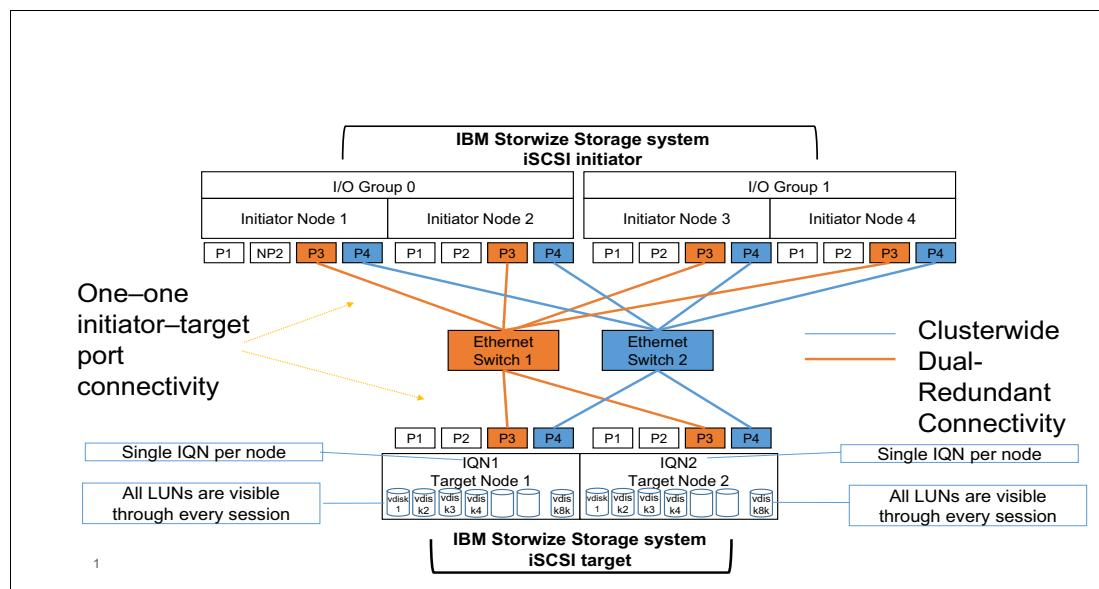
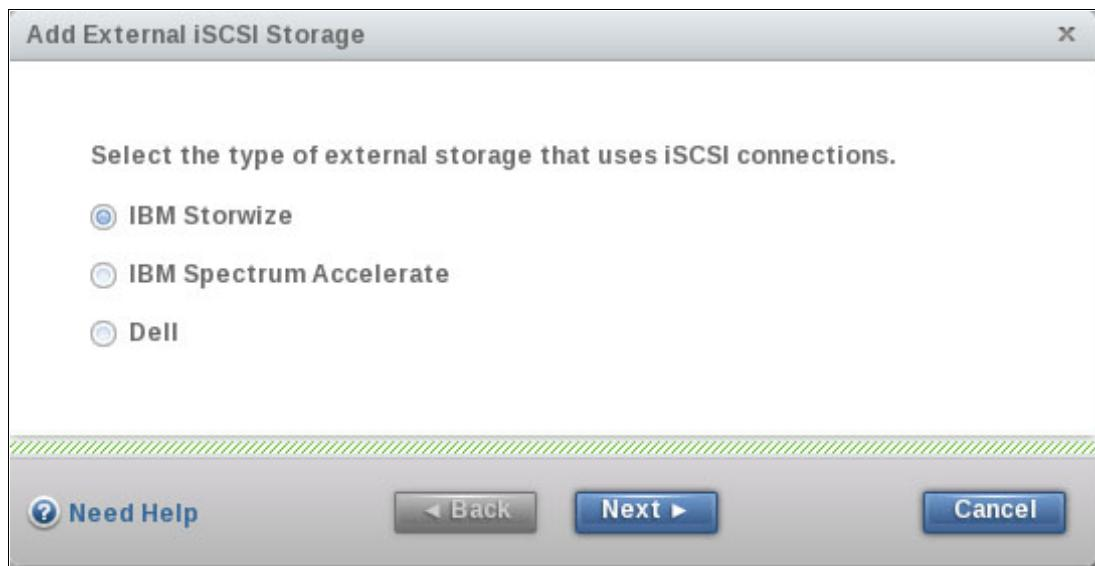
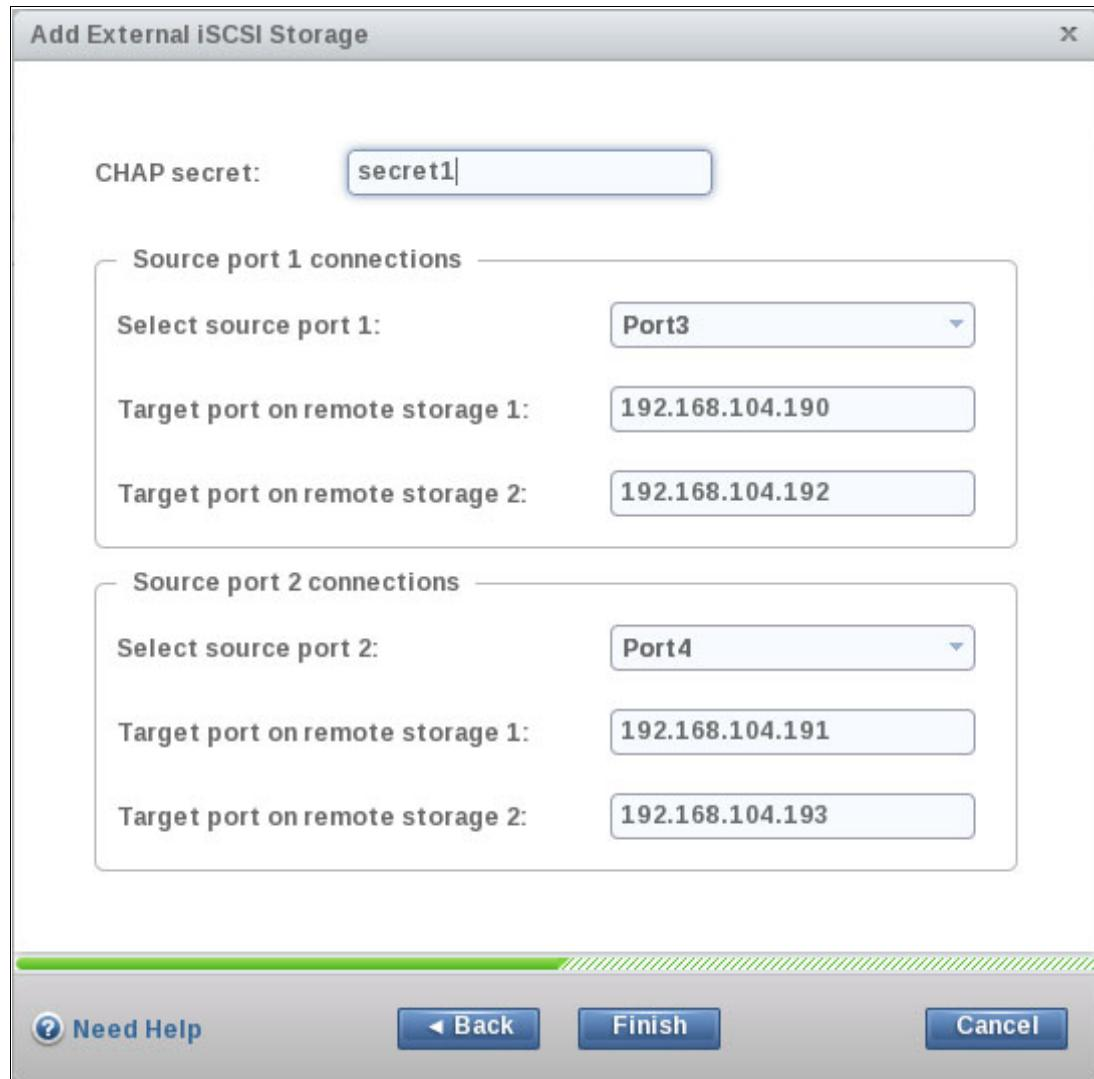

Figure 12-1 An example configuration with an iSCSI-connected Storwize target system
Figure 12-2 The first stage of the Add External iSCSI Storage wizard
Figure 12-3 The second step of the Add External iSCSI Storage wizard
This chapter uses the configuration that is shown in Figure 12-1 as an example, showing the steps that are required to set up a simple configuration that includes a Storwize target system.
In Figure 12-1 on page 228, each node of the initiator system has two redundant paths to each node of the target system, with one using Ethernet Switch 1 (in orange) and one using Ethernet Switch 2 (in blue). The initiator system has cluster-wide connectivity to each node of the target system for maximum availability. Each source port of the initiator system can have at most one connection to each port of the target system.
In Figure 12-1 on page 228, the initiator system has four IBM Storwize node canisters. Because in SAN Volume Controller and IBM Storwize systems each node has its own IQN, the system has four IQNs. The target system should represent the initiator system with one host object, and associate all four IQNs with that host object.
Example 12-2 on page 231 demonstrates how to set a CHAP secret for the host object that represents the initiator system in the example that is illustrated by Figure 12-1 on page 228. Set a CHAP secret for the host object that represents the initiator system by using **chhost**. There is no feedback from a successful invocation.
In the example that is illustrated by Figure 12-1 on page 228, each node in the target system has four Ethernet ports: Two 1 Gbps ports and two 10 Gbps ports. Each connection should be between ports with the same speed to maximize the link performance.
In Figure 12-1 on page 228, the connections are from 10 Gbps ports on the initiator system to the 10 Gbps ports on the target system. These are ports 3 and 4 on each node of the target system. Therefore, you must assign IP addresses to these four 10 Gbps ports. Example 12-3 shows how to do this with the CLI. Use the **cfgportip** command to configure IP addresses for the iSCSI ports.
This section describes steps that must be carried out on the initiator system to virtualize LUNs that are presented by an IBM Storwize target system that is connected with iSCSI. Part 3, “iSCSI virtualization” on page 211 contains instructions for configuring a SAN Volume Controller or IBM Storwize initiator system for external virtualization of a storage controller that is connected by using iSCSI. Those instructions are generic regarding the back-end controller that is used as the target system. These instructions are specific for external virtualization of an IBM Storwize target system, making specific reference to the example that is illustrated by Figure 12-1 on page 228.
In the example that is shown in Figure 12-1 on page 228, there are 16 iSCSI sessions to establish (two sessions from each of four nodes in the initiator system to each of two nodes in the target system). These 16 sessions are treated by the target system as four groups of four sessions; each group of four sessions is encapsulated in an iSCSI storage port object.
*Table 12-1 The iSCSI storage port objects in the example that is illustrated by Figure 12-1 on page 228*
Figure 12-2 and Figure 12-3 on page 234 show the steps that are required on the initiator system's GUI to configure all of the iSCSI storage port objects that are described in Table 12-1 on page 232. Figure 12-2 shows the Add External iSCSI Storage wizard. Access this wizard by clicking **Add External iSCSI Storage** in the upper left of the **Pools → External Storage** pane.
In Figure 12-2, click **IBM Storwize** and then **Next** to configure the iSCSI storage port objects to virtualize an IBM Storwize target system.
Figure 12-3 shows the second step of the Add External iSCSI Storage wizard. The details that are entered into the wizard in Figure 12-3 result in the initiator system creating all of the iSCSI storage port objects that are described in Table 12-1 on page 232, which configures all of the iSCSI sessions in the example that is illustrated by Figure 12-1 on page 228.
You can use the **lscsicstorageport** command to view information about the configured iSCSI storage port objects on the initiator system. Example 12-5 shows the concise **lscsicstorageport** view on the initiator system in the example that is illustrated by Figure 12-1 on page 228.